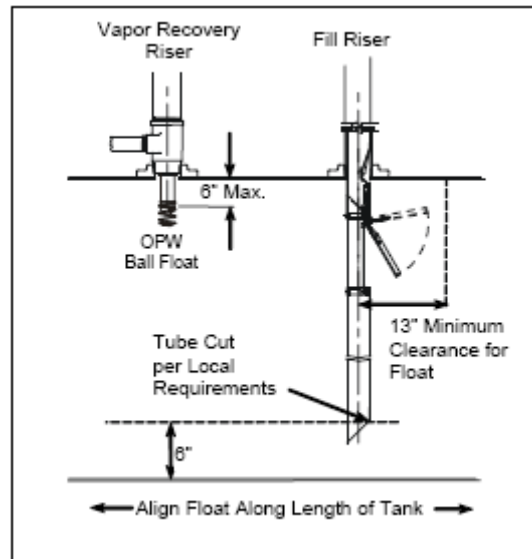

Figure 16
Measuring from the underside of the inlet tube flange, mark the overall length of the drop tube a distance of (B) minus 6" or as per local codes or requirements. Determine dimension (B) from the measurements taken in Step 1, Figure 1 (Top of the Face Seal Adaptor below the drain valve outlet in the spill container to the bottom of the tank). Saw off the excess tube at a 45-degree angle, and file off any sharp burrs (Refer to Figure 16). Optional: Install the OPW Tank Bottom Protector on the lower tube (Refer to Installation instructions supplied with the Tank Bottom Protector).